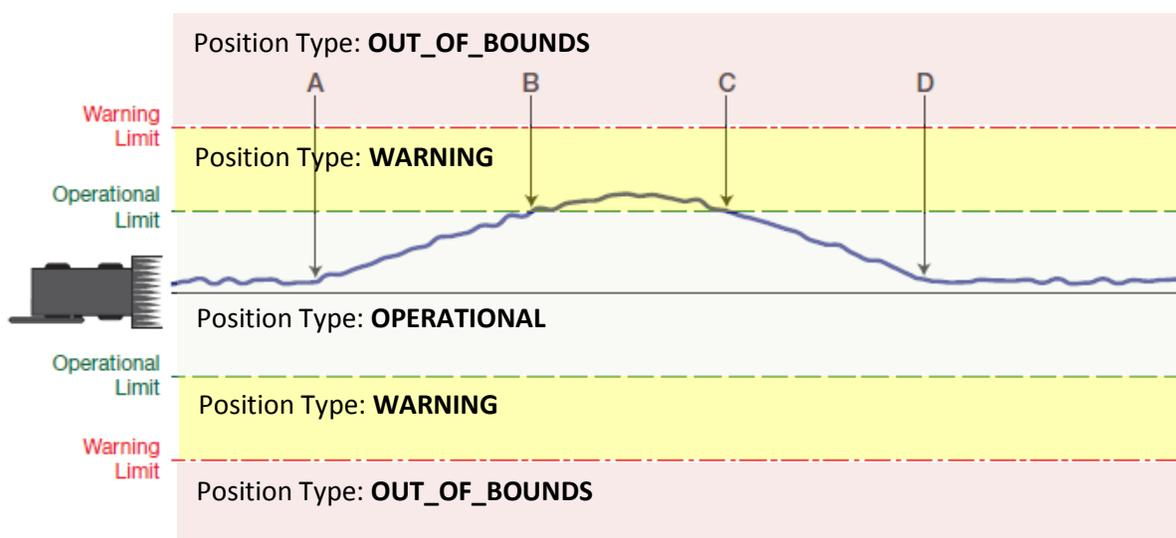

Figure 8 – STEADYLINE User Accuracy Level (UAL) Mode Operation
In Figure 8 below, the user has set operational and warning limits using the UALCONTROL command. At point A, higher accuracy corrections are lost and the receiver changes to a lower accuracy solution. When the position reported by the receiver is within the operational limits, the solution type reported in the BESTPOS message is OPERATIONAL and the receiver will always use the MAINTAIN accuracy mode. When the position reported is between the operational and warning limits (B), the receiver uses the PREFER\_ACCURACY mode and reports the position type as WARNING in the BESTPOS message. When the position reported by the receiver returns to below the operational limit (C), the solution type reported is OPERATIONAL but the receiver continues to use the PREFER\_ACCURACY mode until the position offset is removed. After the offset is removed (D), the receiver transitions to the MAINTAIN accuracy mode.